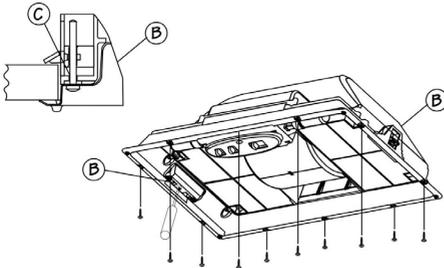

Figure 2
Fix the hood to the cupboard, using the self-threading screws (No. 8) provided with the accessories (fig. 2).
The appliance (B) is intended to be used with a panel thickness from 15 mm to 30 mm. Insert the group into the opening until the two devices (B) connect. Lock the adjustment screw (C) until the built-in group adheres tightly to the surface (fig. 2).
The hood can be ducted to outdoor using either a rigid or a flexible 100 or 120 mm duct to be fixed with suitable clamps which are not provided with the product (fig. 2).